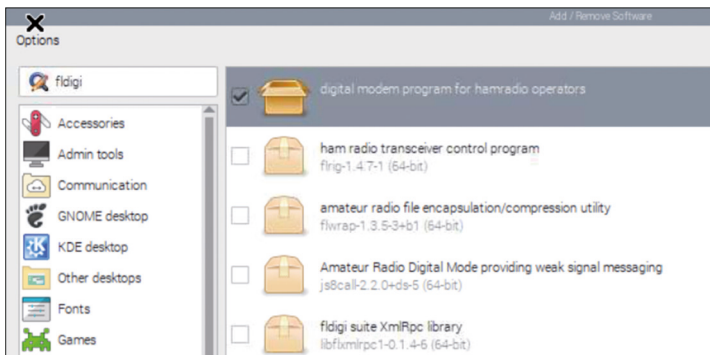

Figure 13.2: Select the program and click Apply.
- Type **fldigi** and press Enter as shown in Figure 13.2.